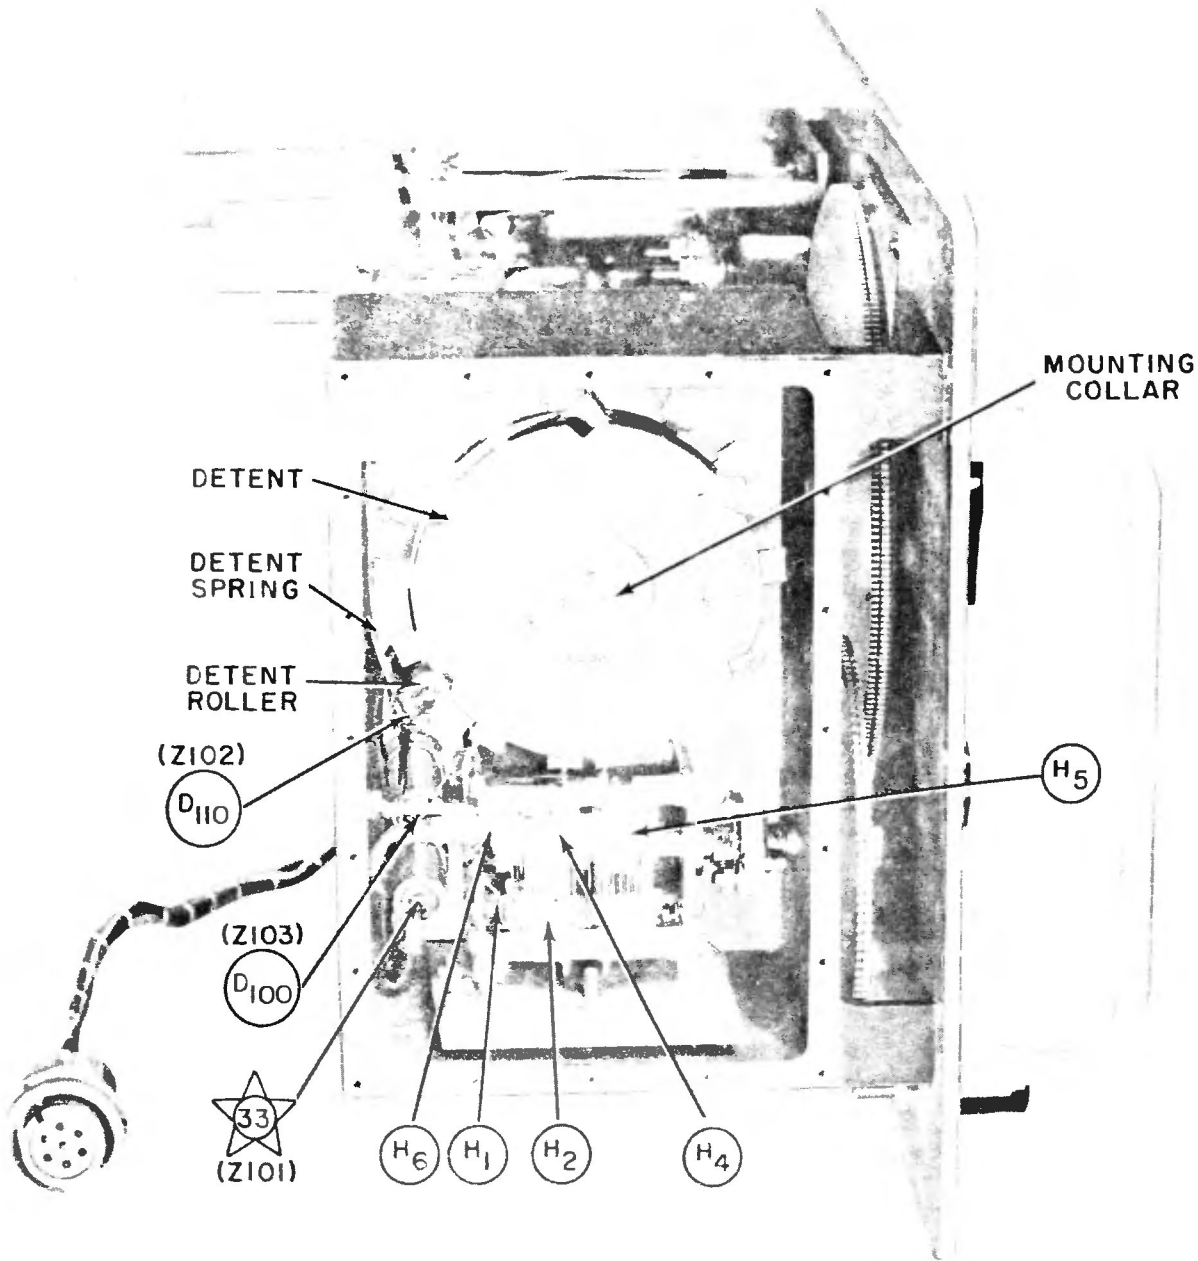
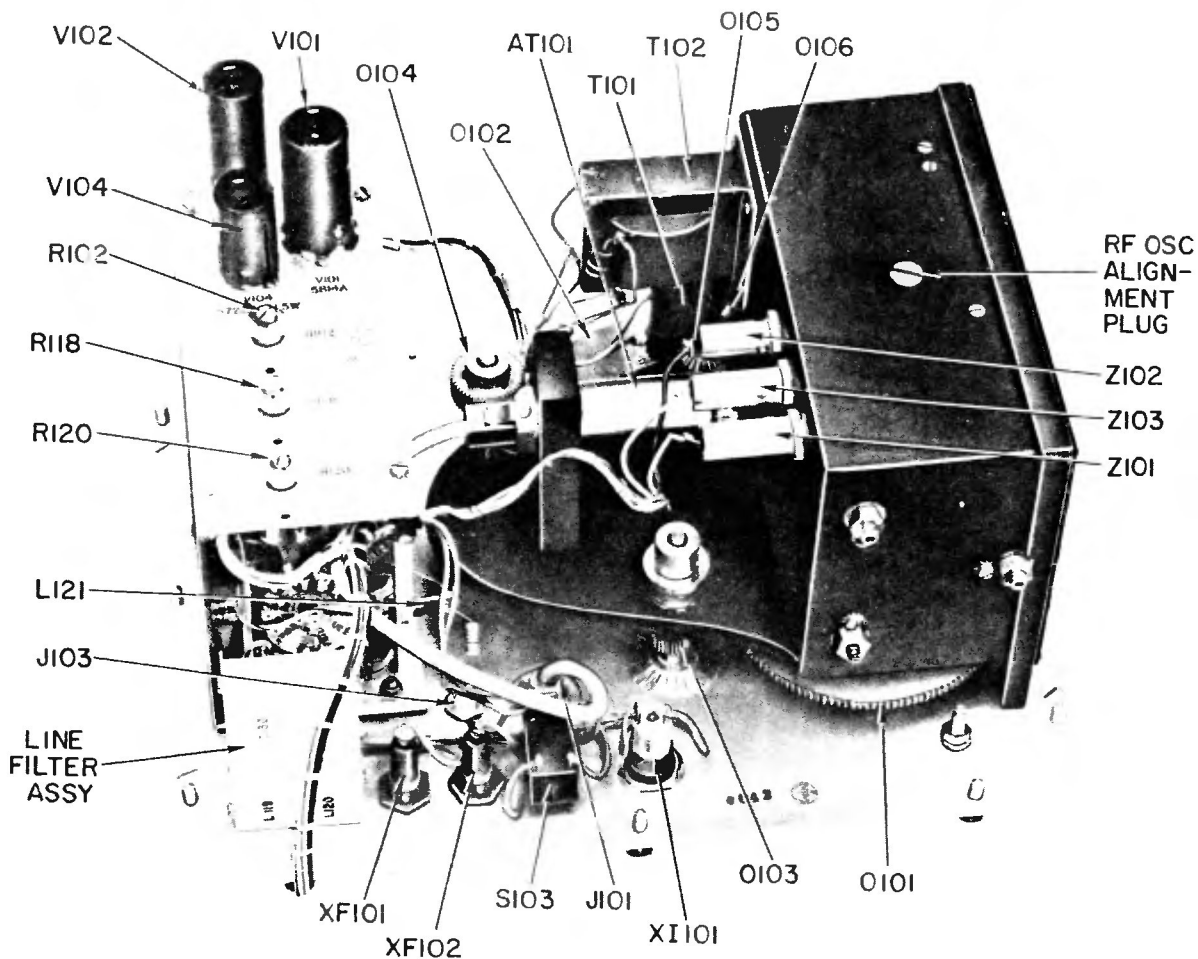
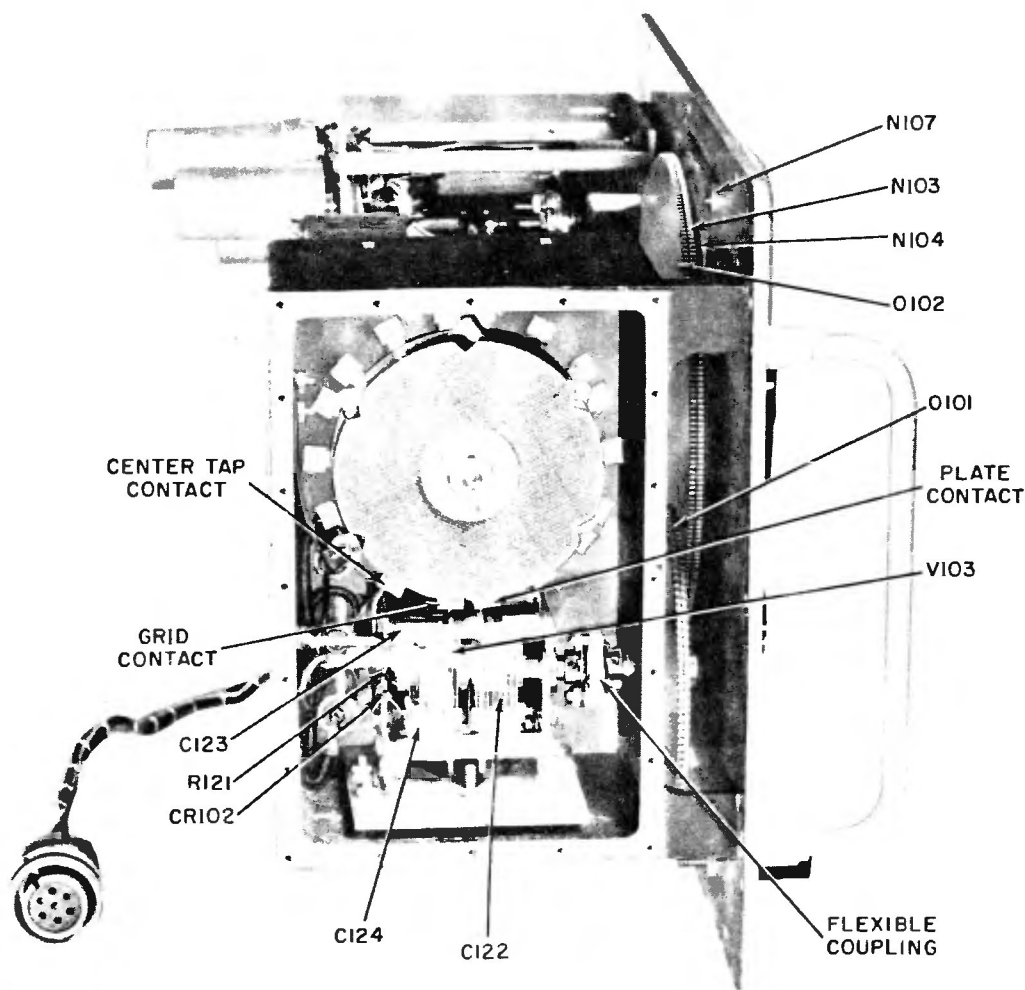

Figure 5-6. RF Oscillator Stage Showing Test Points.
Figure 6-3. Rear View of Signal Generator SG-117/URM-26B.
Figure 6-5. RF Oscillator and Variable Capacitor Subassembly.
e. RF OSCILLATOR. – Expose the rf oscillator stage (see paragraph 6-5) so that the test points are exposed as in figure 5-6. Figure 5-7 shows the metering crystal pickup mount. Figure 4-2 shows the simplified schematic diagram for this stage. Using Table 5-8 as guide, follow the steps in order, connecting the appropriate test instruments to the proper test points. Take the preliminary action indicated in the third column of the table, then see the normal indication in the next column. The last column directs you to the next step.
Whenever it is necessary to calibrate the signal generator or to replace any rf components, it will be necessary to expose the rf section. These instructions are meant to be used only when indications are clear that the rf oscillator section must be opened. Do not casually open this critical unit for routine servicing. Where necessary, carefully follow this procedure for disassembling the rf oscillator section. (See figures 5-6 and 5-7, figures 6-3 through 6-7.)
b. REMOVING RF OSCILLATOR TUBE V103. (See figure 5-6.) – CAUTION: Tube V103 is very fragile and should be removed only when really necessary. Disconnect filament socket by carefully drawing the socket off in a line with the tube pins to avoid damaging the tube. Next, insert index finger under plate end of tube, raising tube while spreading the plate bracket with thumb of same hand. This frees one end of the tube. Gently work out entire tube by continuing to raise plate end until tube is free. Use only fingers, avoiding undue strain on disc seal.
c. REMOVING COIL TURRET. – Using No.8 Allen wrench, loosen 2 set-screws on mounting collar (see figure 5-6). Raise the detent spring. Remove detent roller. Centering detent spring between wiper contacts of the turret, lift the turret out with the fingers.
d. REMOVING TUNING CAPACITOR. – Unsolder black tube filament lead from ground point of capacitor. Unsolder ground strap from capacitor to case. Unsolder white and blue wire (oscillator B+). Remove the three tuning capacitor mounting screws (6 x 32) with washers (See figure 6-3.) holding tuning capacitor to casting. (Avoid disturbing the adjustment of the three stand-off adjustment—alignment $\frac{1}{4}$ " studs.) Work the tuning capacitor out gently with the fingers. (It may be of aid to vary the TUNING dial to a point more favorable for removal of the tuning capacitors; see figure 6-5.)
f. REMOVING METERING CRYSTAL PICKUP MOUNT. (See figure 5-7.) – Unsolder cable from Z102 (Test point D110, figure 5-6.). With No.6 Allen wrench, loosen pickup mount set screws. It is necessary to lower the attenuator cylinder slightly. This is done by unscrewing cylinder retaining screw slightly (see figure 6-3) and
The technician is cautioned against unnecessary removal of this unit. Only if R130 or L118 or a mechanical component requires replacement should the attenuator be removed. If removed and replaced, it is necessary to follow with recalibration procedures (see paragraph 6-11). To remove rf attenuator first remove the metering crystal pickup mount (see paragraph 6-5f). Then unscrew cylinder retaining screw (see figure 6-3). This frees the cylinder, which can be drawn out through the rf compartment side. Remove the output cable by unscrewing the hex retaining collar which attaches the rf output cable to the front panel.
6-8. REMOVING LOW-PASS FILTER SUBASSEMBLY.(See figures 6-3 and 5-6.)
Unsolder the wires connected to the filter subassembly if it is desired to remove. The outside connector is shown in figure 6-3. The inside connector is shown in figure 5-6. If the rf oscillator cavity is not open, it is necessary to expose it as described in paragraph 6-5a. With soldered leads freed, the filter subassembly is removed as a complete cylinder by unscrewing it from the outside back of the oscillator cavity.
6-10. RECALIBRATING RF OSCILLATOR (See Table 6-2, figures 6-3, 6-4 and 6-9.)
Connect the RF OUTPUT of the signal generator to the impedance match. Connect the output of the impedance match to the input of the frequency counter. Unscrew the oscillator alignment plug (see figure 6-3) from the case of the oscillator coil section, exposing the slug of the coil in use. Replace rf oscillator cover plate with jig plate with hole exposing trimmer of the coil in use. Plug in the ac cord of the signal generator. Turn on the signal generator and the frequency counter.
Only designated calibration laboratories should re-calibrate RF OUTPUT (adjust variable attenuator) except in an emergency. If such resetting of the microvolts output is deemed necessary, precautions should be noted to prevent damage to coils L-117 and L-118: Remove cover from RF Oscillator and Variable Capacitor Subassembly (see figure 6-5). Damage to coils L-117 and L-118 will result if they are permitted to touch each other with force. Throughout any adjustment visually note these parts and prevent any possibility of their touching while the RF output (variable attenuator) is gently moved throughout its range.
(1) Set up the signal generator for CW operation at 5 mc (see paragraph 3-4).
(2) Connect Impedance Matching Network CU-439/URM-26B to RF OUTPUT jack on front panel, through the short RF Cord.
(3) Connect the other end of the network to the ac input of Multimeter AN/USM-34 (through appropriate probe adapter).
(4) Test RF OUTPUT dial by turning it completely counter-clockwise. It should read 100K at the stop. If it does not, loosen the two set screws in the dial hub (located below attenuator driving gear, figure 6-3) and reset the dial so it reads 100K at the stop.
(5) Turn on the signal generator and the multimeter (if not already turned on).
(6) Adjust CARRIER LEVEL control so meter reads at SET CARRIER red line.